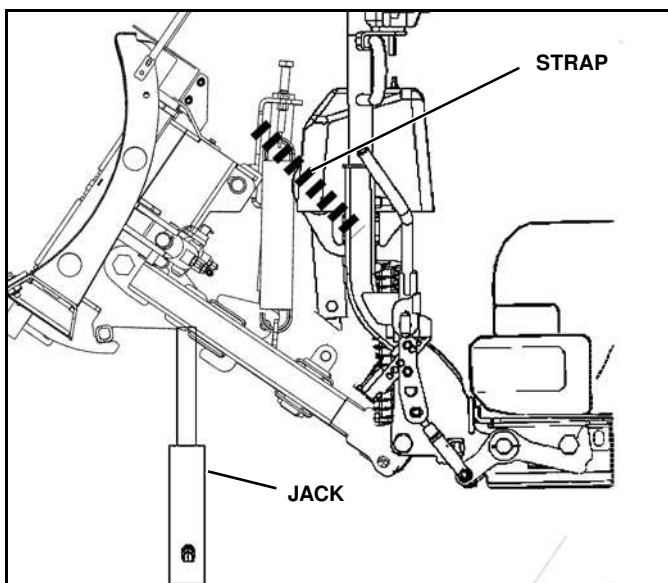

Figure 1-49
1. Set jack under plow. (See Figure 1-49).
2. Release strap and lower jack. (See Figure 1-49).